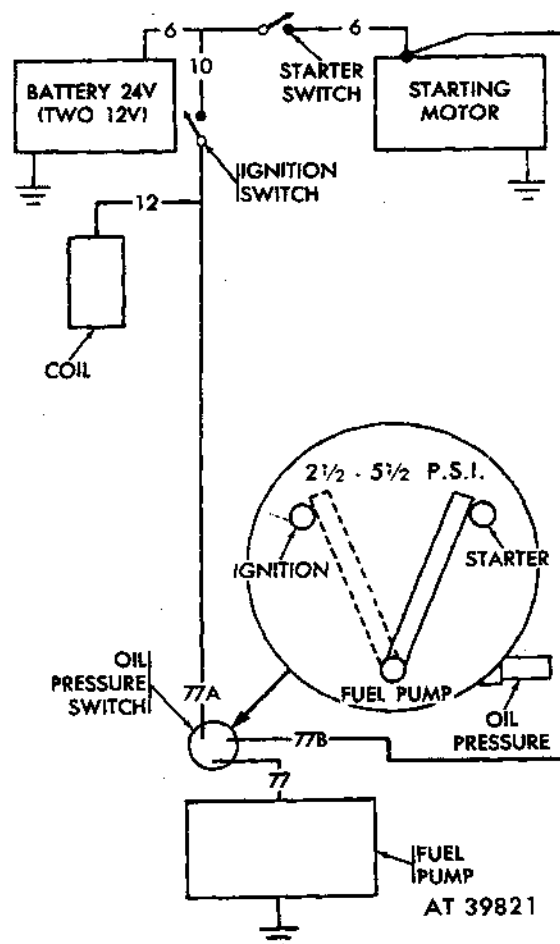

Figure 2-70. Fuel pressure safety switch circuit diagram.
d. Testing Fuel Pump Safety Switch (Oil Pressure Safety Switch). Refer to figure 2-70.